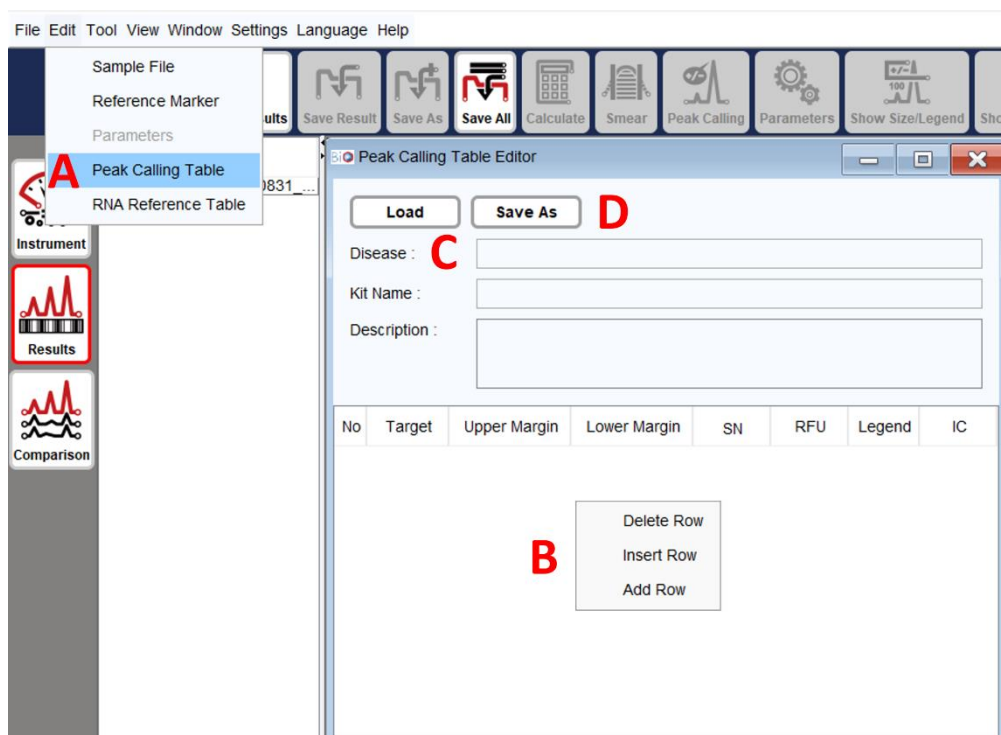

Figure 50 Peak Calling Table
1. Click on **Edit** → **Peak Calling Table** to open the Peak Calling Table Editor (Figure 50 A).
2. Right-click and select **Add Row** to add a new panel (Figure 50 B).
3. Set up the new table by entering criteria in the respective columns (Figure 50 C) and save it as a new file (Figure 50 D) in the default folder.